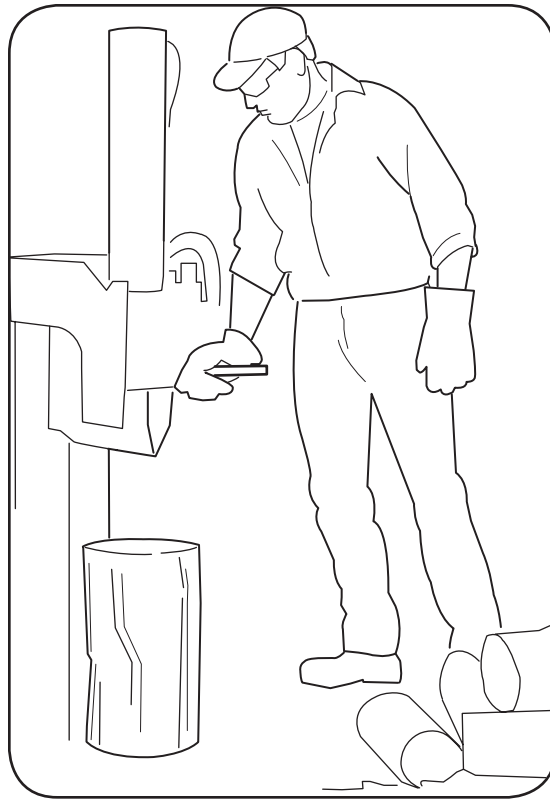

Figure 4-3
3. Stand in front of the unit to operate the control handle and to stabilize the log. See Figure 4-3.